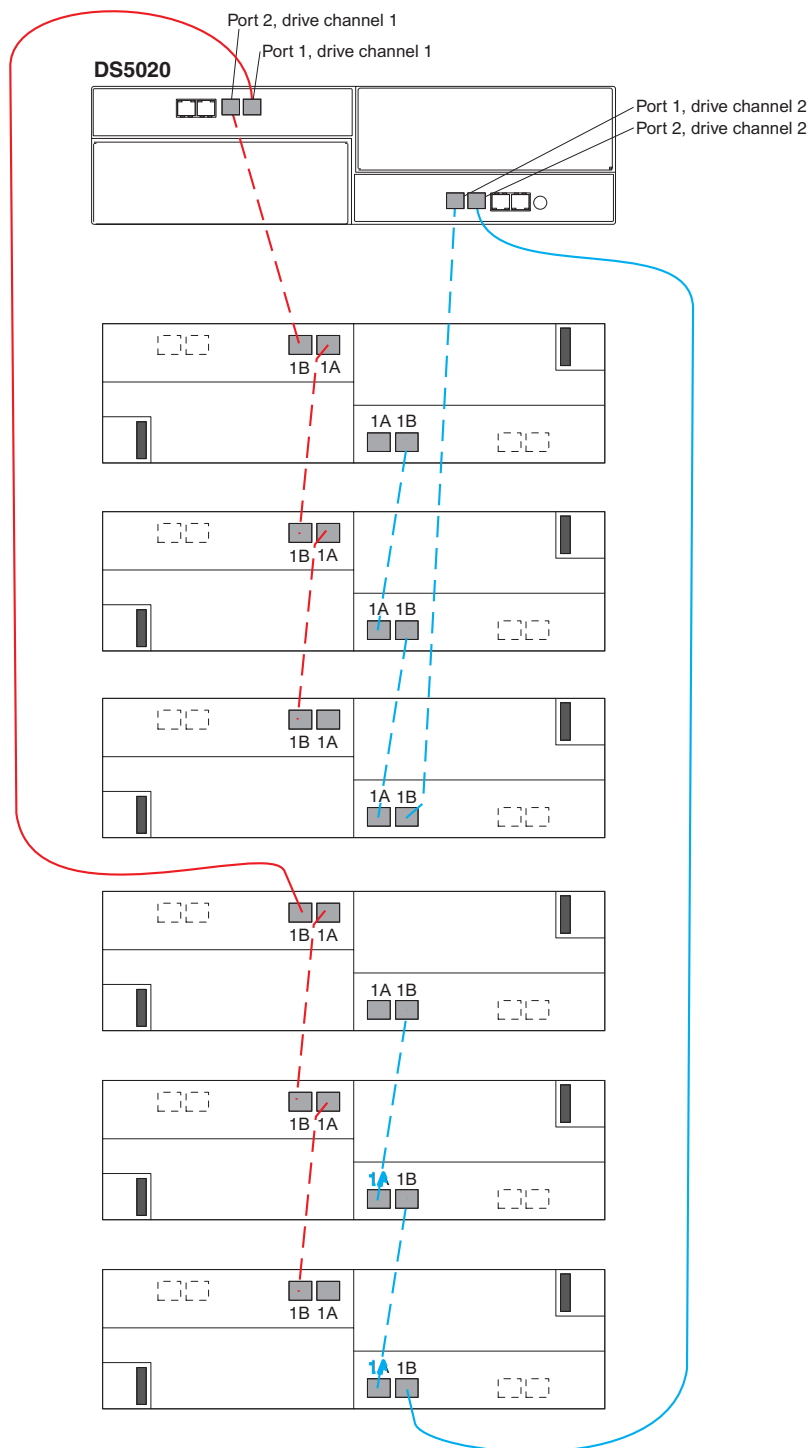

Figure 42. Cabling for one DS5020 and up to six storage expansion enclosures
If you are cabling one DS5020 storage subsystem and up to six storage expansion enclosures, Figure 42 shows the correct cabling topology.
7. When connecting six storage expansion enclosures to a DS5020, use all ports in both drive channels. See Figure 42 on page 66 for the cabling topology.